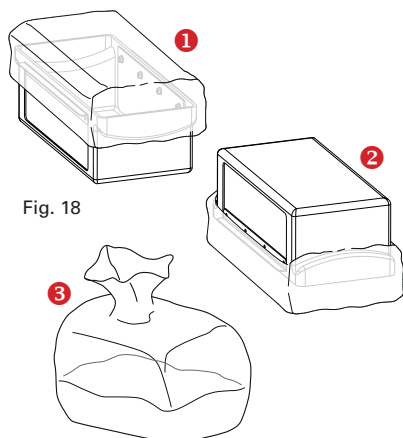

Fig. 18
- 1 For a dust-free disposal use the enclosed dustbag and tighten the strap below the slides and handle bars (Fig.18)
- 2 Now slowly turn over the dustbin and pour the dust into the dustbag. Therefore hold the dustbin with the dustbag. (Fig.18)
- 3 Release the strap and remove the dustbin from the dustbag. Close the dustbag immediately. (Fig.18)
- 2 after that you can pull the sealing plate with silencer out to the rear (fig. 18), at the same time pulling the protective ground contact off the silencer housing on the left.